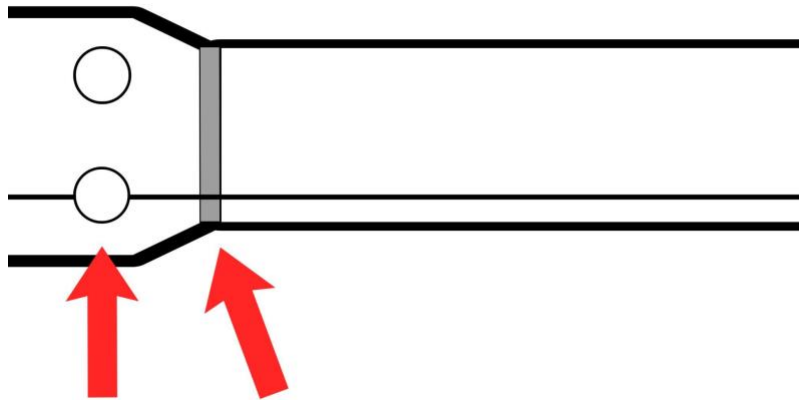

Figure 3: Where to align the string with the nut slot and machine head.
8. Align the string with its bridge saddle, then enter it into its nut slot on the neck and put it through the hole on the corresponding machine head (see Figure 3).